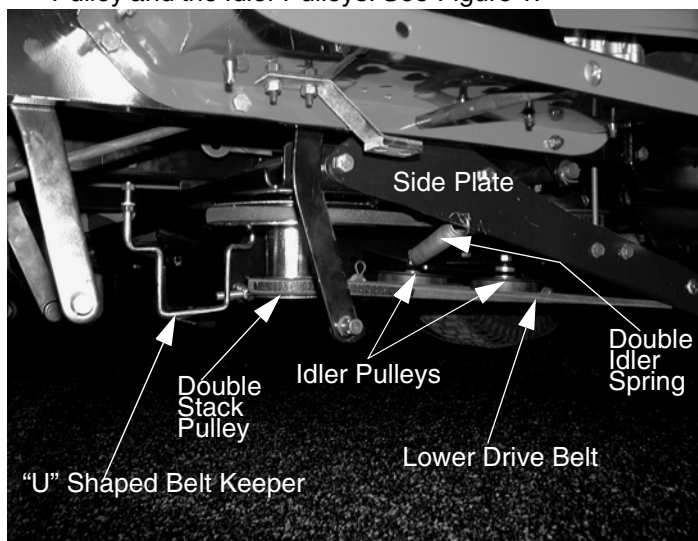

Figure 1
1. With the snow thrower lowered to the ground, use a 7/16 wrench to remove the top nut from the right side of the "U" Shaped Belt Keeper and loosen the upper nut on the left side. Pull down on the right side of the belt keeper and swing it to the rear. See Figure 1.
2. Unhook the Double Idler Spring from the Side Plate on the right using a rope or spring puller. See Figure 1.
3. Remove the Lower Drive Belt from the Double Stack Pulley and the Idler Pulleys. See Figure 1.